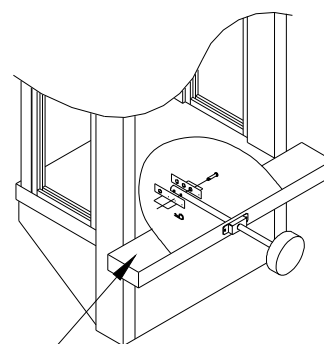

FIGURE 10
3. From the outside, underneath the window attach the push-pad shaft to the slide rider with the clevis pin and hitch pin. (Figure 10)